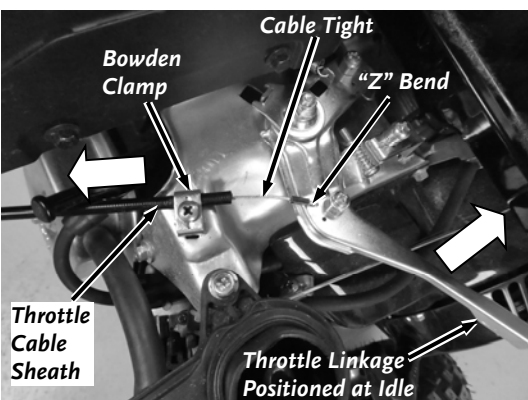

Figure 27
4. Hook the "Z" Bend end of the Throttle Cable in the Hole (hole furthest left) in the Throttle Linkage (**Figure 27**). Loosen the Bowden Clamp with a Phillips Screw Driver and position the Cable Sheath under the Clamp.